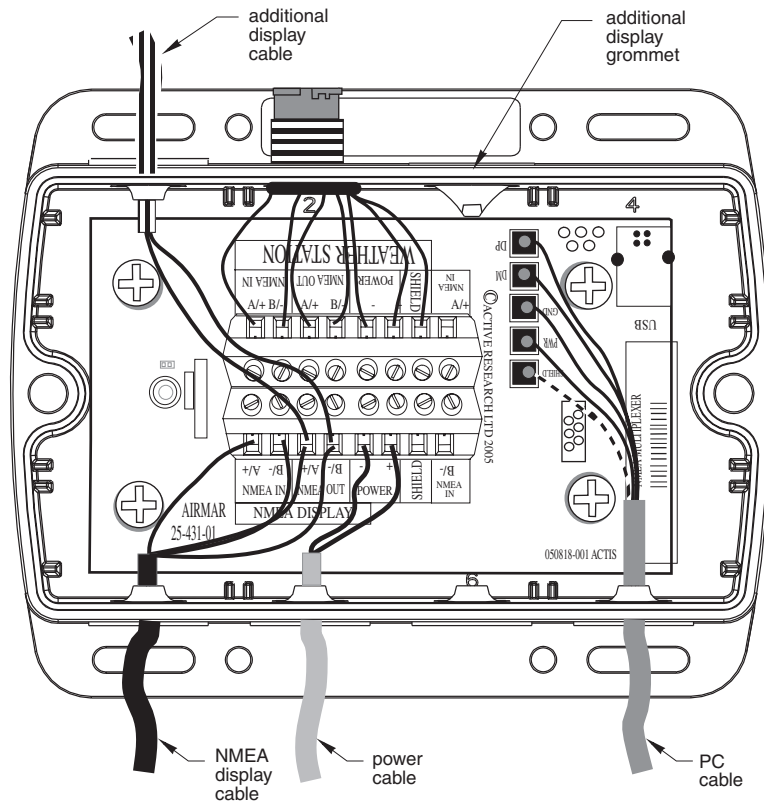

Figure 13. Wiring additional display devices to a Combiner
Use the AUX NMEA OUT grommets to connect one or two additional devices to receive and display data from the WeatherStation. To wire a device(s) through the AUX NMEA OUT grommet(s), use the NMEA OUT terminals on the printed circuit board (see Figure 13).
5. Push approximately 200mm (8") of the cable through the grommet(s) (see Figure 13).
1. Route the power cable from the Combiner to the power supply (see Figure 13).